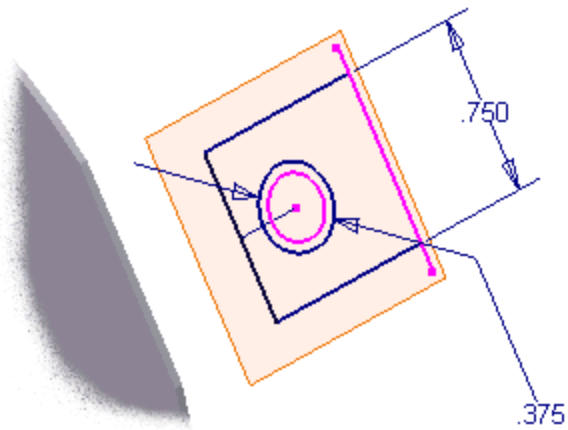

Figure 17: Sketch for sheet metal face.
4. Sketch three perpendicular lines as shown in Figure 17. Two lines are coincident to the projected edge. The construction line centers the sketch about the hole. For clarity, the ring part is not shown in Figure 17.